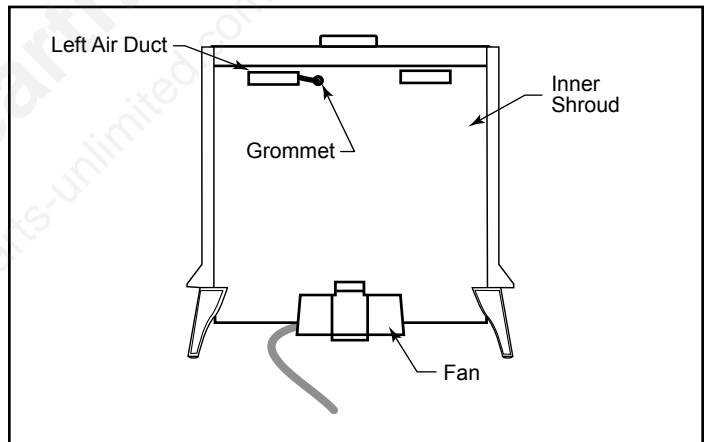

Figure 61 - Attach snapstat wire assembly to inside of inner shroud with clamp screws.
4. Place the grommet provided in the parts bag assembly on the inner shroud. Run the snapstat extension assembly leads through the grommet toward the firebox. (Figure 61)